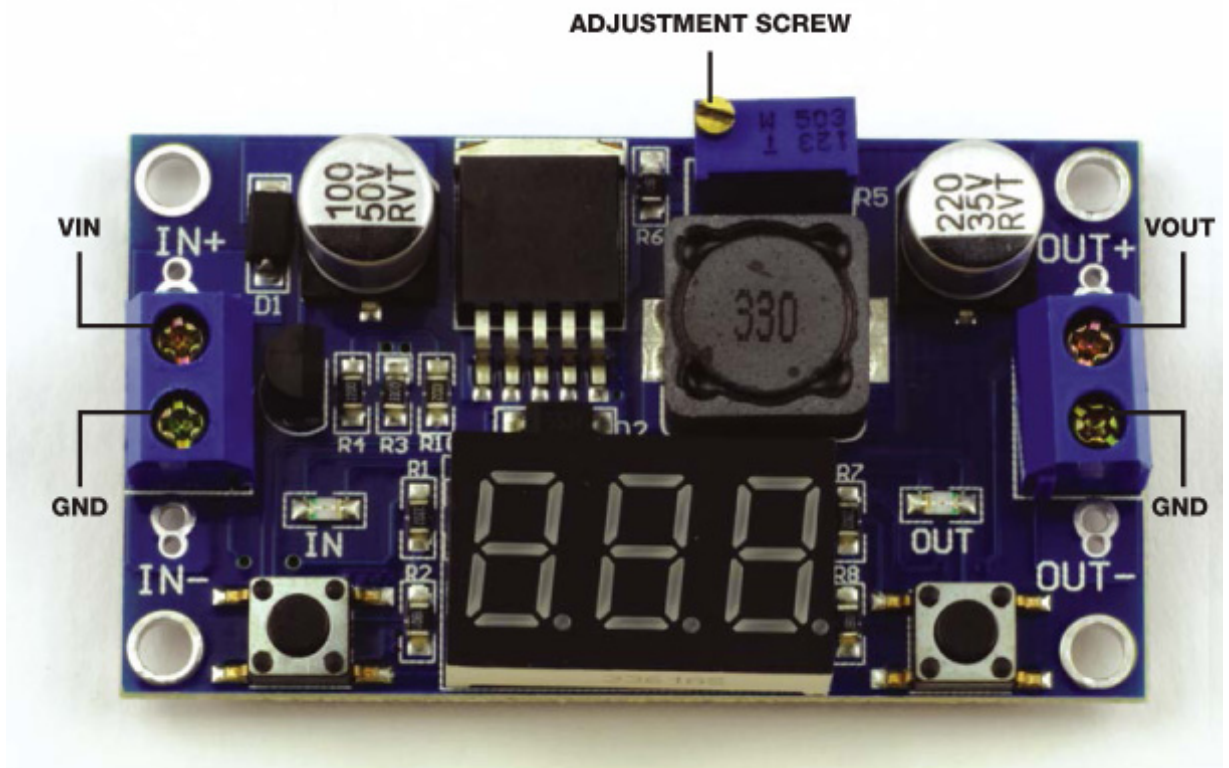
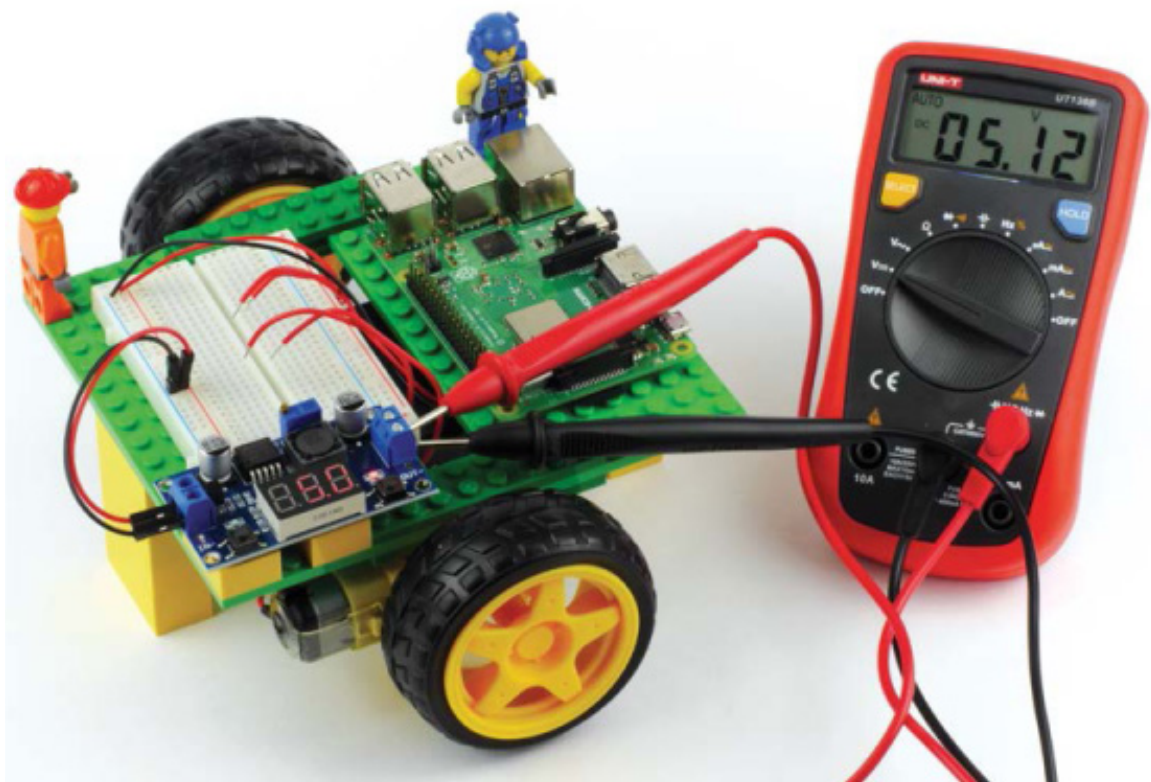

FIGURE 3-19 A close-up of the buck converter
FIGURE 3-20 The multimeter reading 5 V from the output of the buck converter
Start by setting up your buck converter using the following instructions—you won't connect it to the Raspberry Pi just yet. Flip to the circuit diagram in Figure 3-21 to see a final diagram of the buck converter setup. Check out Figure 3-19 for a close-up image of the buck converter too.
3. Next, turn on your multimeter and set it to read voltage—on most multimeters you do this by turning the dial in the middle to *V*. Then insert the multimeter’s red positive lead into the VOUT (voltage out) terminal of your buck converter, and insert the multimeter’s black negative lead into the GND terminal on the same side (see Figure 3-19). You should see a reading of the output voltage of your buck converter appear on the multimeter. Don’t worry about the value of the reading just yet!
4. With the multimeter connected so you can see how the voltage changes, use a screwdriver to twist the *adjustment screw* on the top of your buck converter (check back to Figure 3-19). Insert your screwdriver, and as you twist either left or right your voltage reading should change. Work out the correct direction you need to twist the adjustment screw, and then keep twisting the screw until your multimeter reads 5 V (± 0.1 V), as shown in Figure 3-20. This requires a little trial and error!